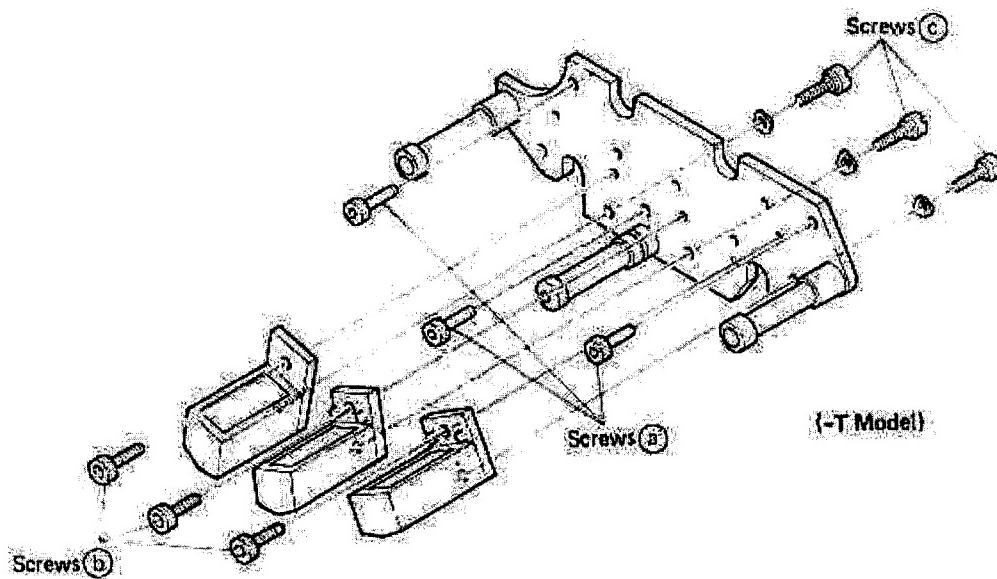

Fig. 9-3-4. Head Ass'y Removal
1. First, remove the head housing as described in 9.3-1 (A).
2. Using a 3 mm Allen wrench, remove the three Allen screws **(a)** holding the head as shown in Fig. 9-3-4.